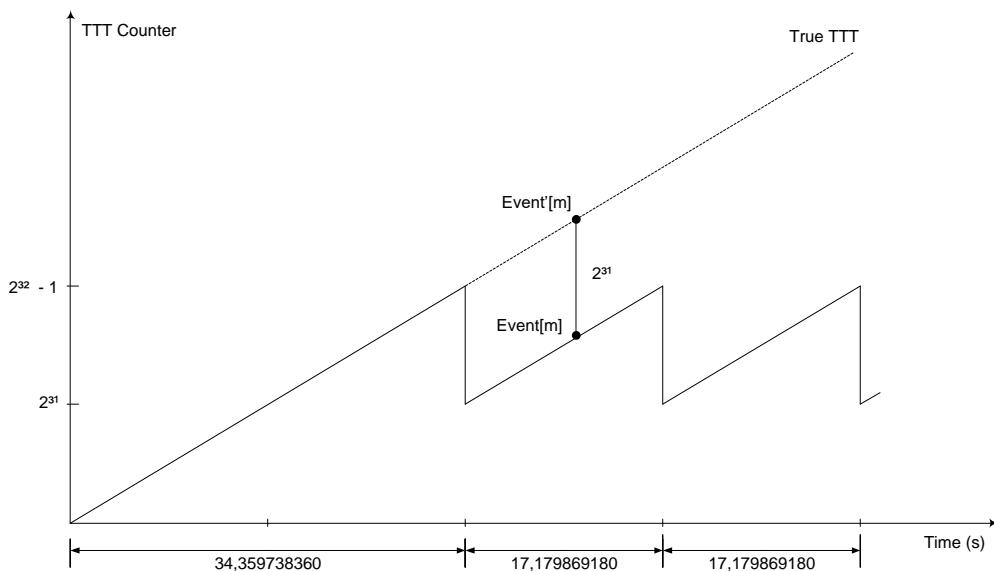
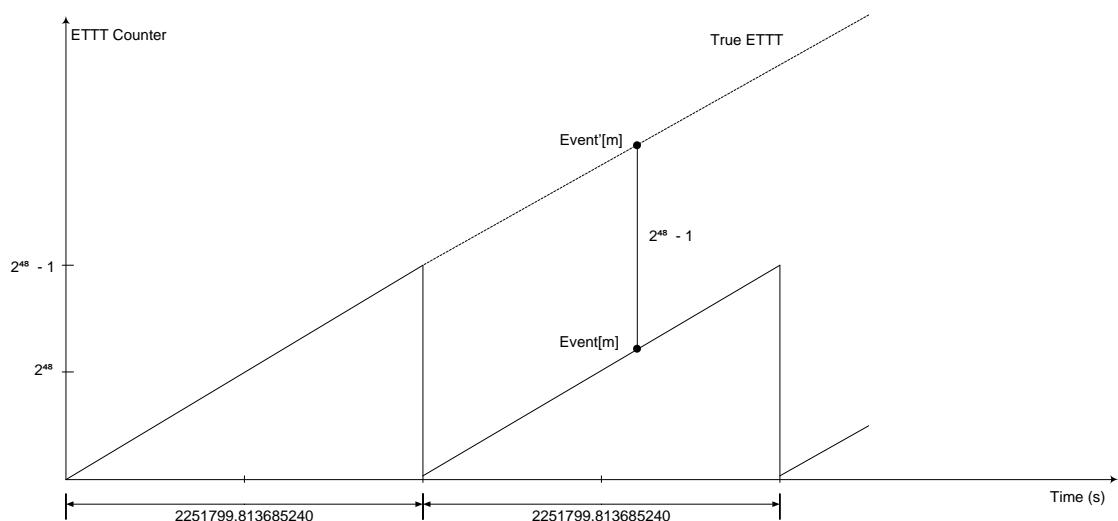

Fig. 9.4: TTT description.
Fig. 9.5: ETTT description.
- **TRIGGER TIME TAG** (bits[31:0] of 4th header word) is the 31-bit Trigger Time Tag (TTT) information (31 bit counter and 32nd bit as roll-over flag), which is the trigger time reference. The word is composed of the value of the 31-bit counter of the Trigger Time Tag (bit[30:0]) plus the overflow bit (bit[31]) indicating that the timestamp counter has overflowed at least once (**Fig. 9.4**). If the ETTT option is enabled, then this field becomes the 32 less significant bits of the 48-bit Extended Trigger Time Tag information in addition to the 16 bits (MSB) of the TRG OPTIONS field (2nd event word). Note that, in the ETTT case, the roll-over flag is no more provided (**Fig. 9.5**). The trigger time tag is reset either at the start of acquisition, or via front panel signal on S-IN or LVDS I/O connectors, and increments with 125 MHz frequency (i.e. every 8 ns, that is $\frac{1}{2}$ ADC clock cycle). The TTT value is read at half this frequency (i.e. 62.5 MHz) so that the specifications are 16 ns resolution and 17 s range (8 ns \times $(2^{31} - 1)$), which can be extended to 625 h (8 ns \times $(2^{48} - 1)$) if ETTT is enabled.